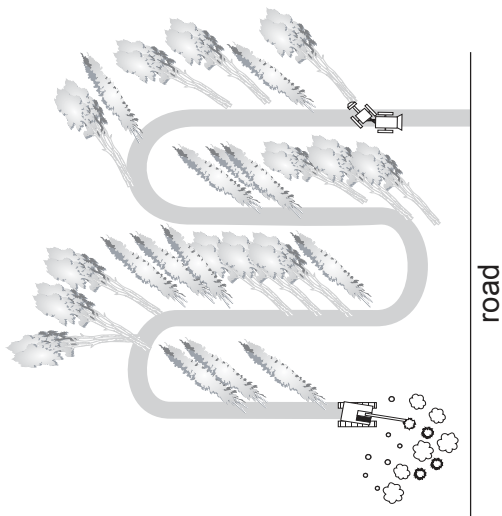

Figure 13a. Fell perpendicular to the road and skid on frozen trail.
- Operate the feller-buncher in a pattern perpendicular to the road so that the trails will freeze and can later be used safely by the skidder (**Figure 13a**).